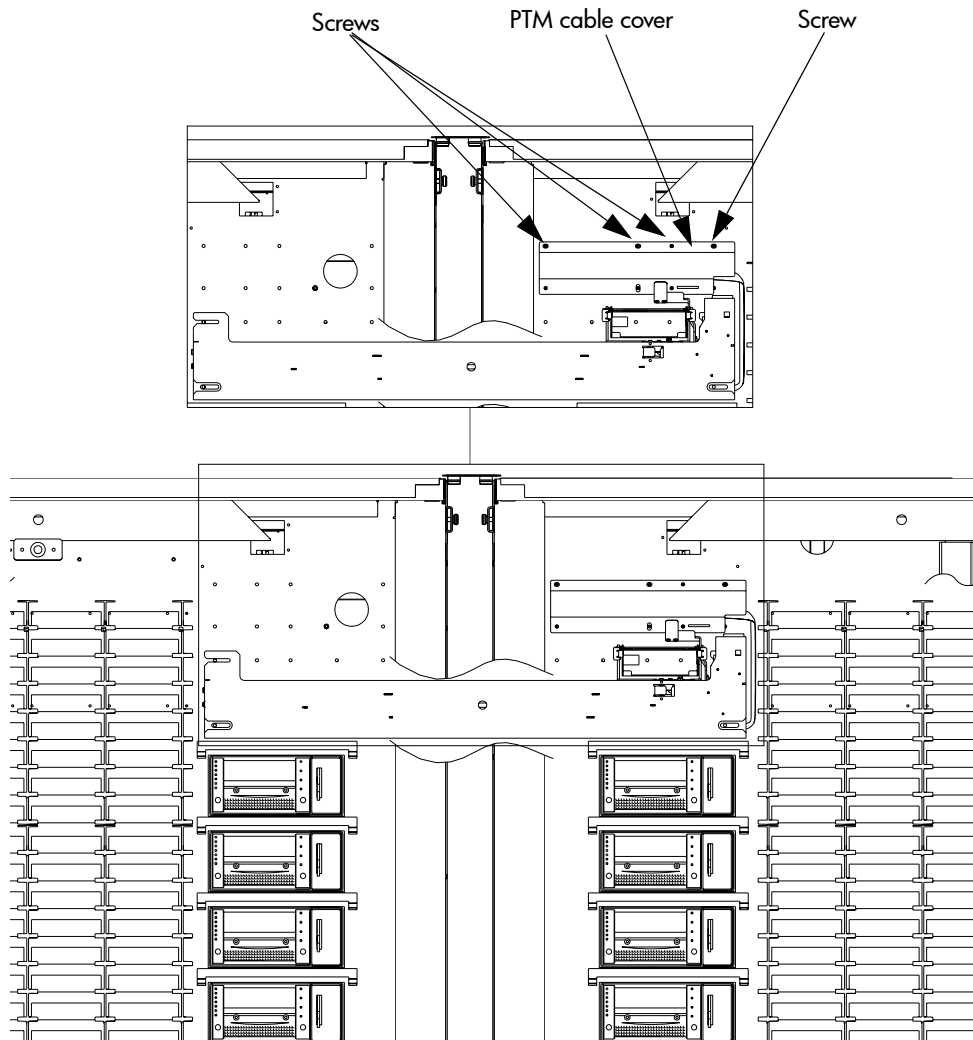

Figure 25: PTM installation (ESL9326 shown)
1. Attach the pass through cable cover (6312061) with four 10-32 x 5/8 screws and washers to the bin wall to cover the cable and cable hole (see Figure 25). Tighten screws to 30 ± 3 in lb.